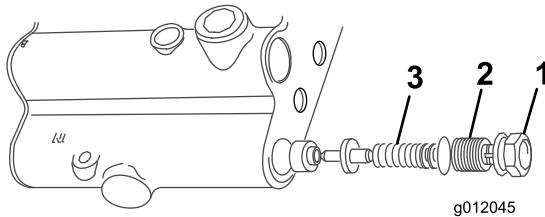

Figure 20
2. Remove the gray lift pressure spring from the lift control valve and replace it with the green spring included in the kit (Figure 20). Retain the gray spring to reinstall if the rotary broom is removed.